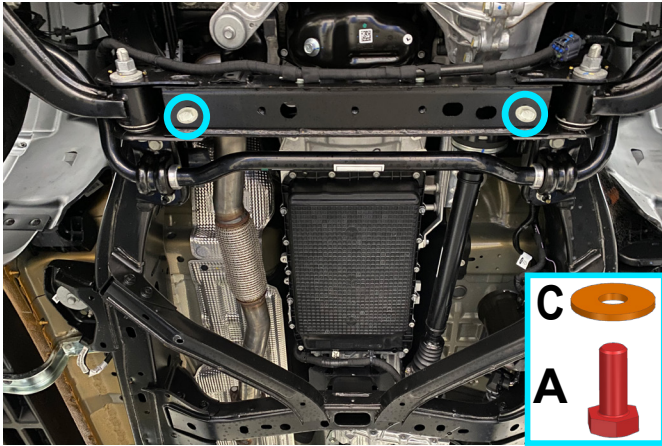

Fig. 1
1. Loosely install supplied M10x35 bolts (item A) with M10 washers (item C) as shown in fig.1. At this point only thread the bolt in 2-3 turns to allow the skid plate to slide under in a later step.